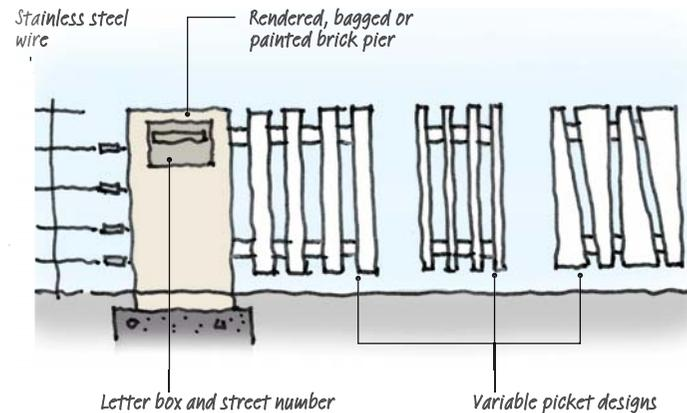
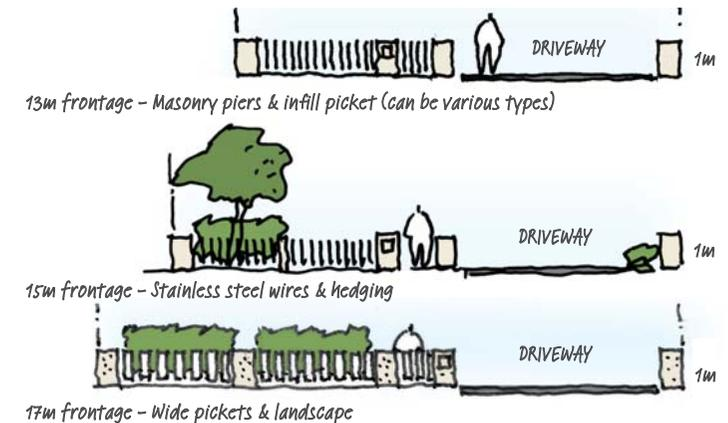

FIGURE 29: Fence Type 2 - Variable picket designs together with entry pier Indicative
FIGURE 30: Fence Type 2 - Indicative front fencing for 13m, 15m and 17m frontage lots
- Masonry, rendered bagged or painted piers, with infill timber pickets, metal picket (flats) or stainless steel wire and turnbuckles (refer Figure 29 and Figure 30).